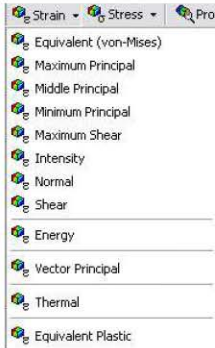

Fig. 149 Menu for stresses and strains
- For stresses and strains (Fig. 149), components can be requested under “Normal” (x, y, z) and “Shear” (xy, yz, xz). For thermal strains, (x, y, z) components are under “Thermal.”